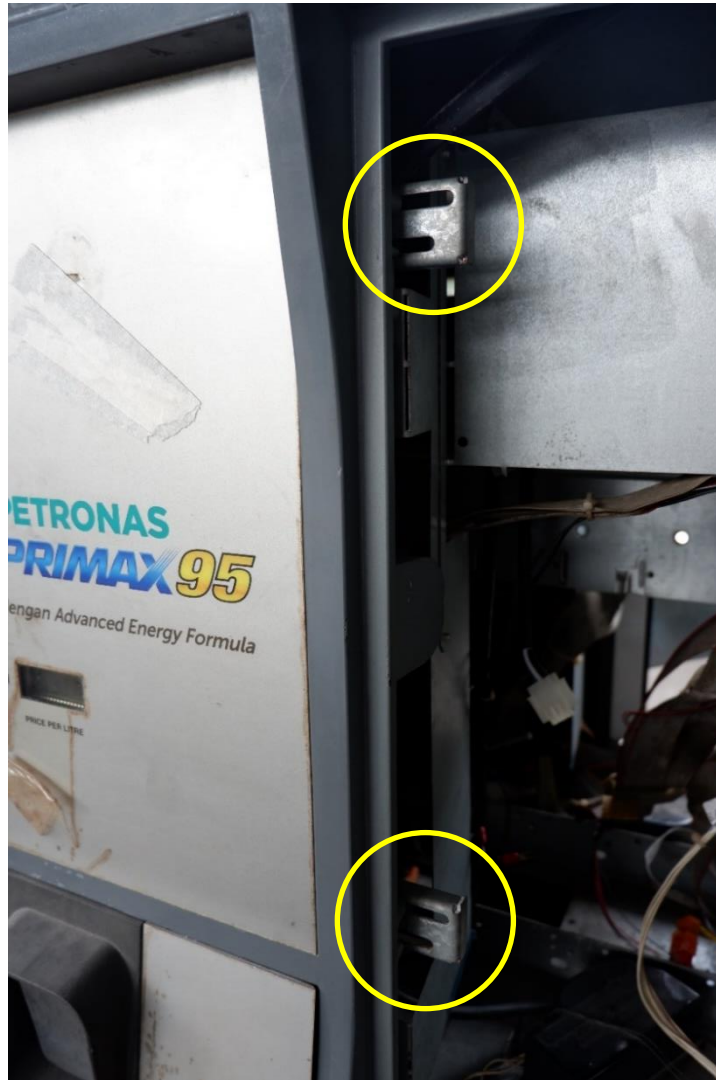

Fig 2.6a – Location of main door latches
7. Undo both latches located on the left-hand side of the dispenser's main door. Open the main door. (Fig 2.6a)